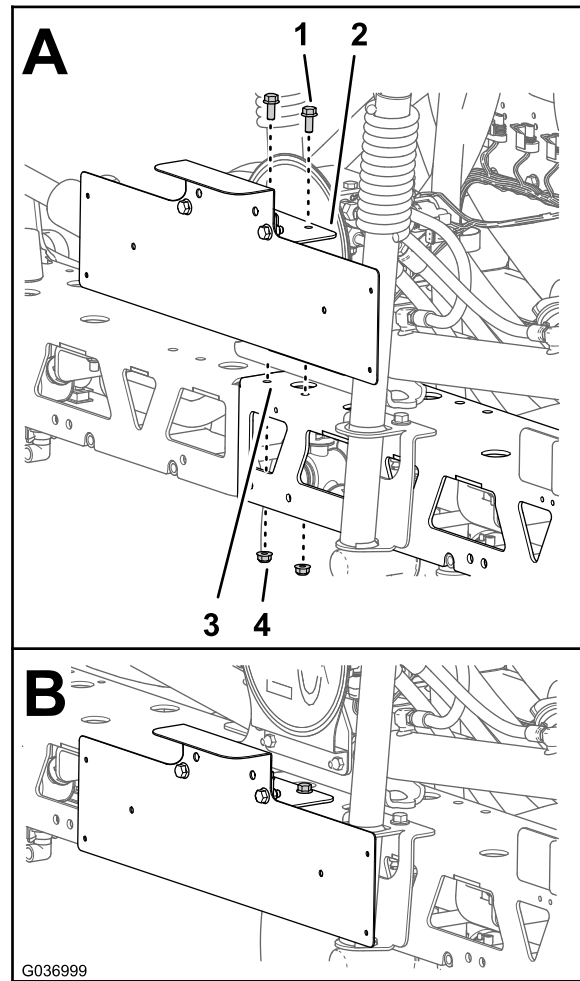

Figure 16
2. Align the holes in the support bracket with the holes in the frame of the center-boom section (A of Figure 16).
3. Assemble the support bracket to the center-boom section (B of Figure 16) with 2 flange-head bolts (5/16 x 3/4 inch) and 2 flange locknuts (5/16 inch).